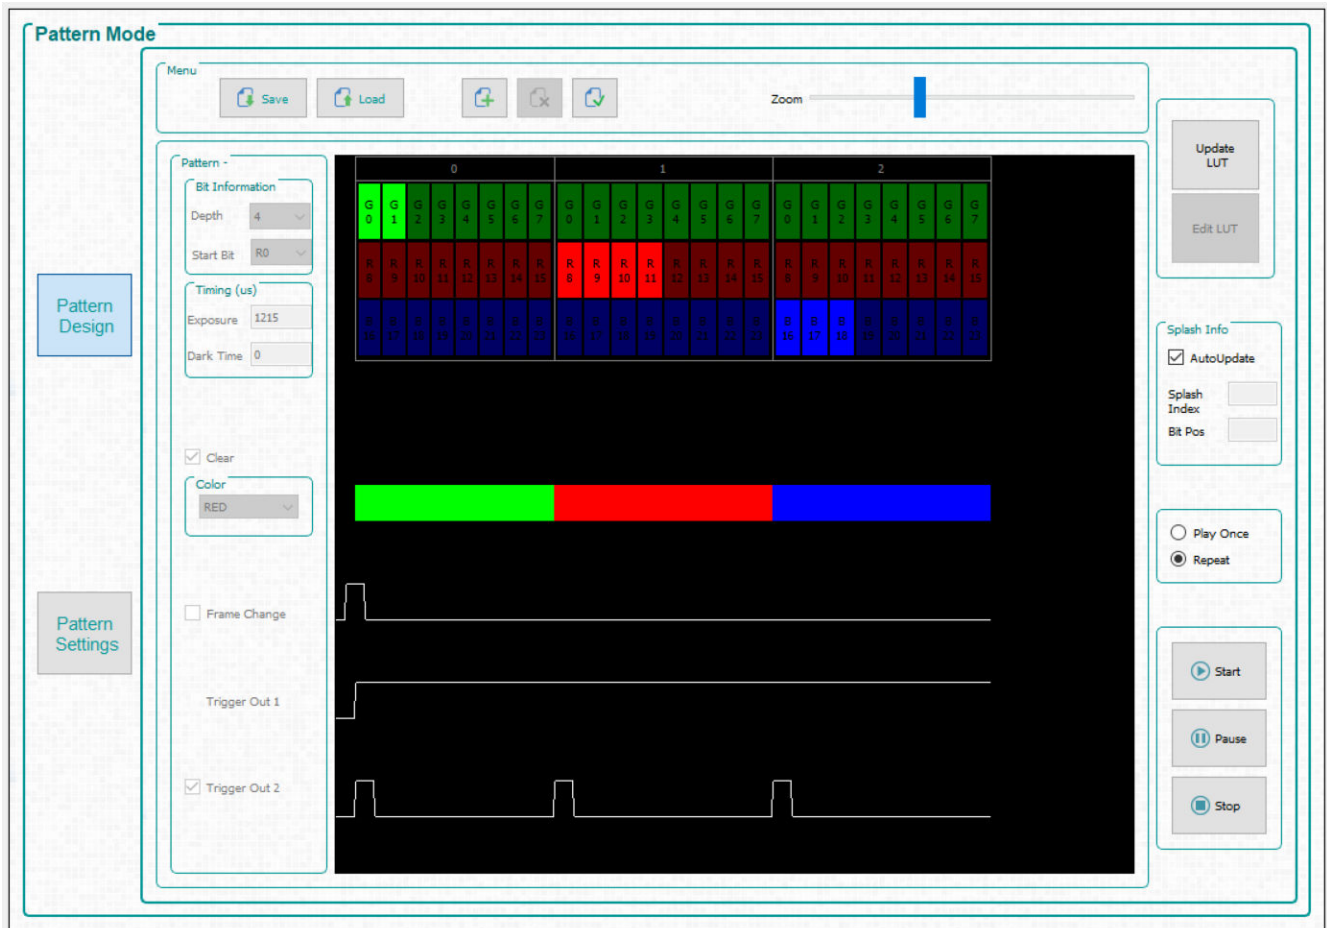

Figure 3-14. Video Pattern Mode
- See Figure 3-14 after all settings have been applied.